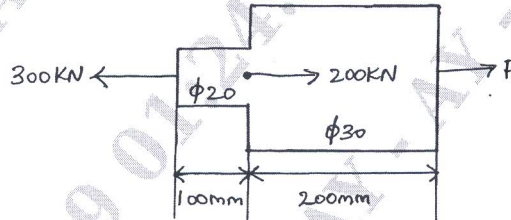

Fig.Q2(b)
b. Determine the stress in different segments of a circular bar shown in Fig.Q2(b). Also compute the total elongation of the bar if $E = 200 \text{ GPa}$. (08 Marks)